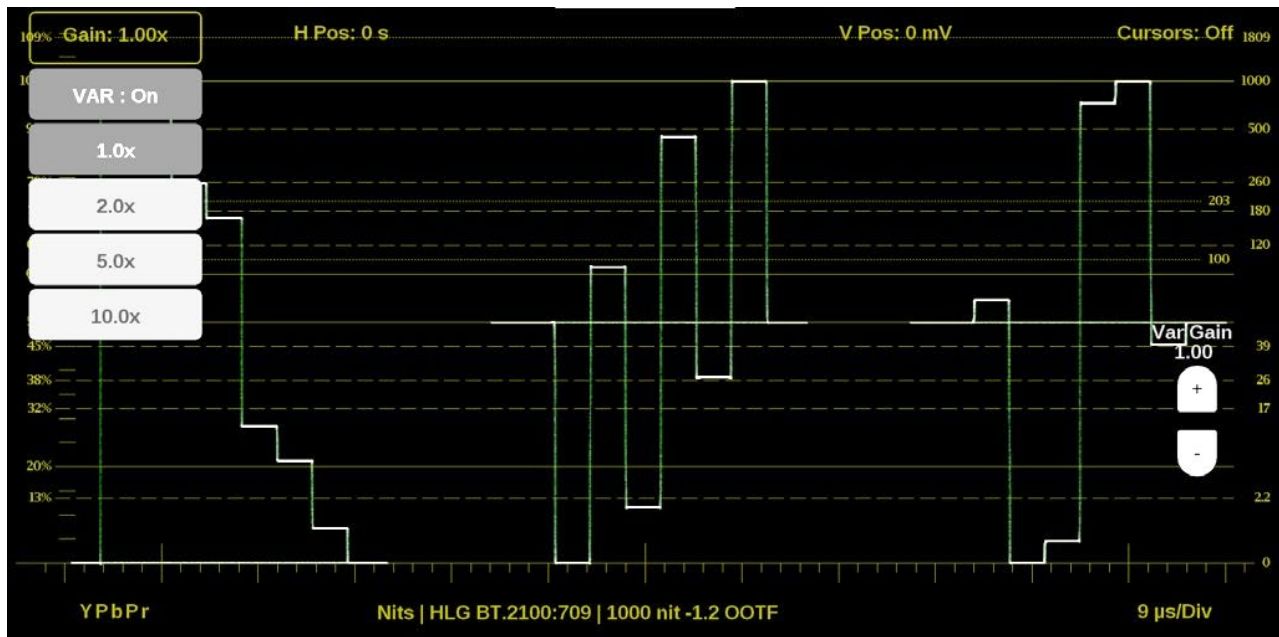

Figure 101: Waveform on-screen tools – Gain
1. Select the **Gain** button to expand the available magnification options drop down list. (See Figure 101.)